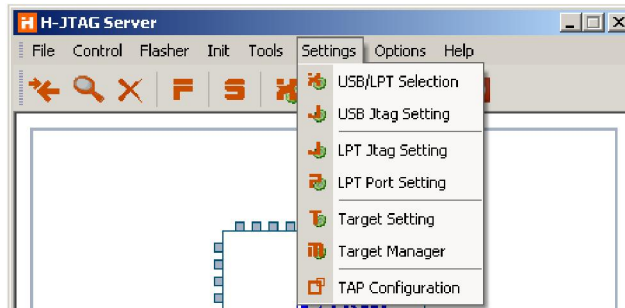

Fig 2-13 Settings Menu
- Settings Menu, as shown in Fig2-13.